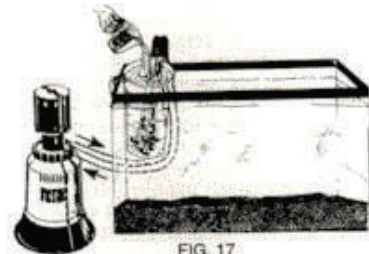

FIG. 17
10. As you can see, at this point you are running the filter only on the water in the small container. You may add the Diatom Powder directly into the container while the filter continues to run. (Fig. 17) A minimum charge for the Diatom D-1 Filter is about one cup of Diatom powder. If you are using super char, now is the time to add it. Part #SC-1.